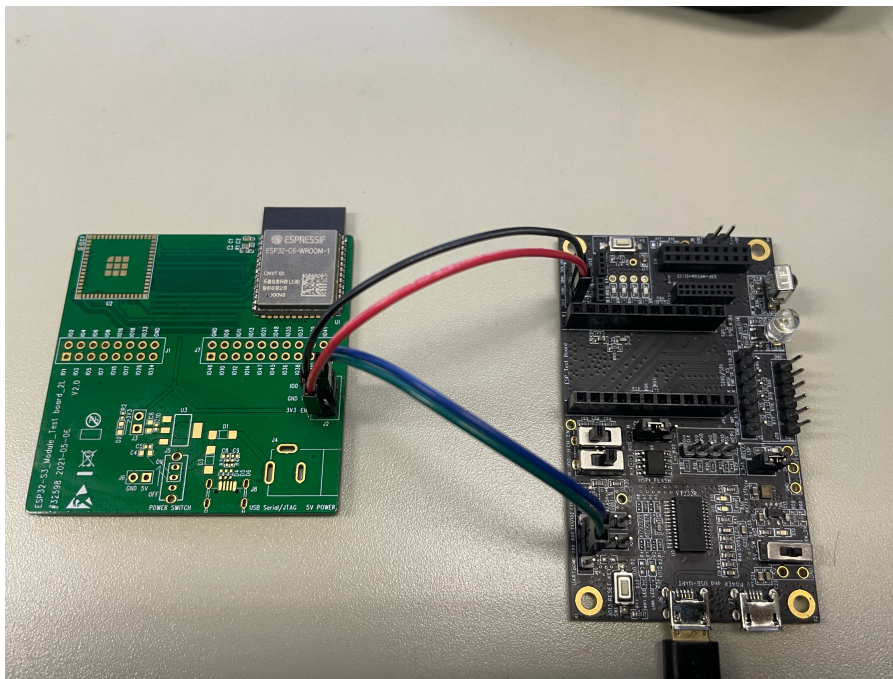

Figure 2: Hardware Connection
1. Solder the ESP32-C6-WROOM-1 module to the RF testing board as shown in Figure 2.